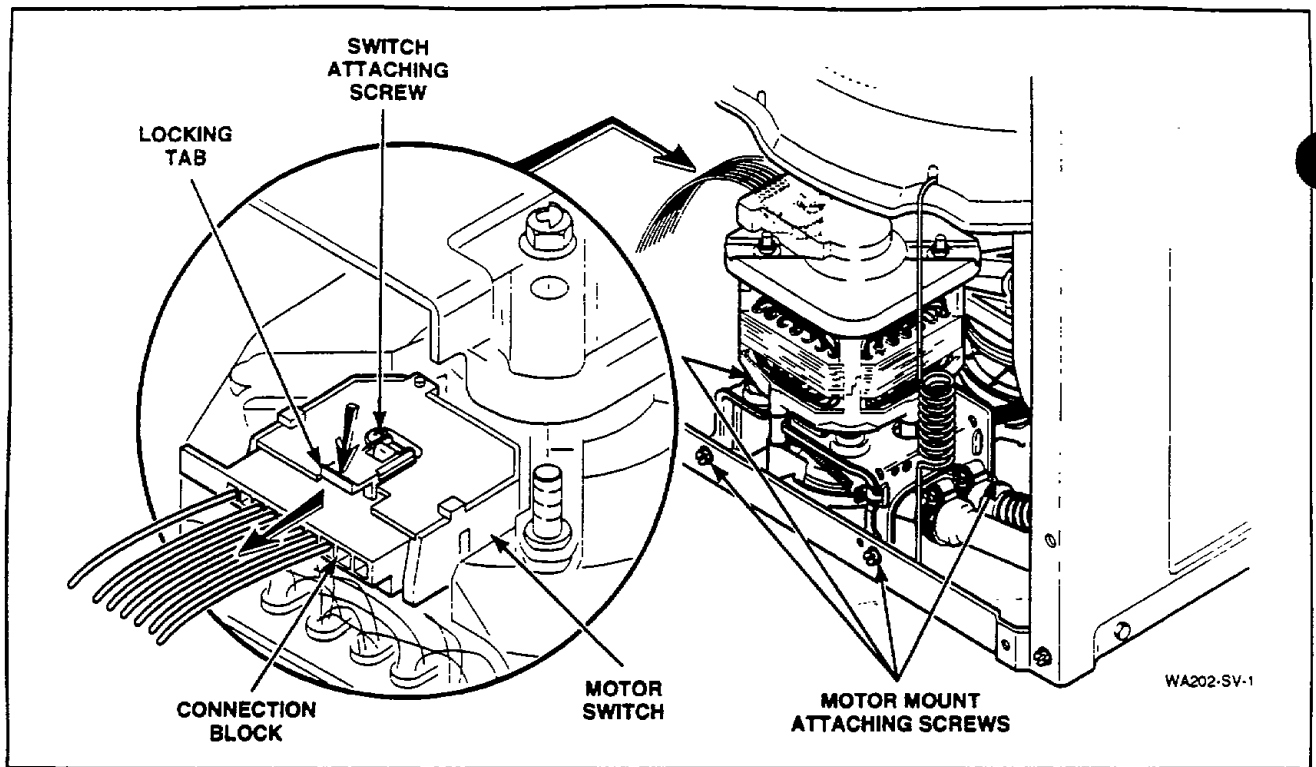

Figure 25
- Disconnect wire harness from motor switch by pressing down on locking tab on top of connection block and at the same time pull connection block away from motor switch, *Figure 25*.
- Remove four screws holding motor and mounting bracket to washer base, *Figure 25*, then lift complete assembly out of washer.
- Remove four screws holding motor assembly to washer base, *Figure 25*, then lift complete assembly out of water.
- Remove four screws holding motor assembly to washer base, *Figure 25*, then lift complete assembly out of washer.